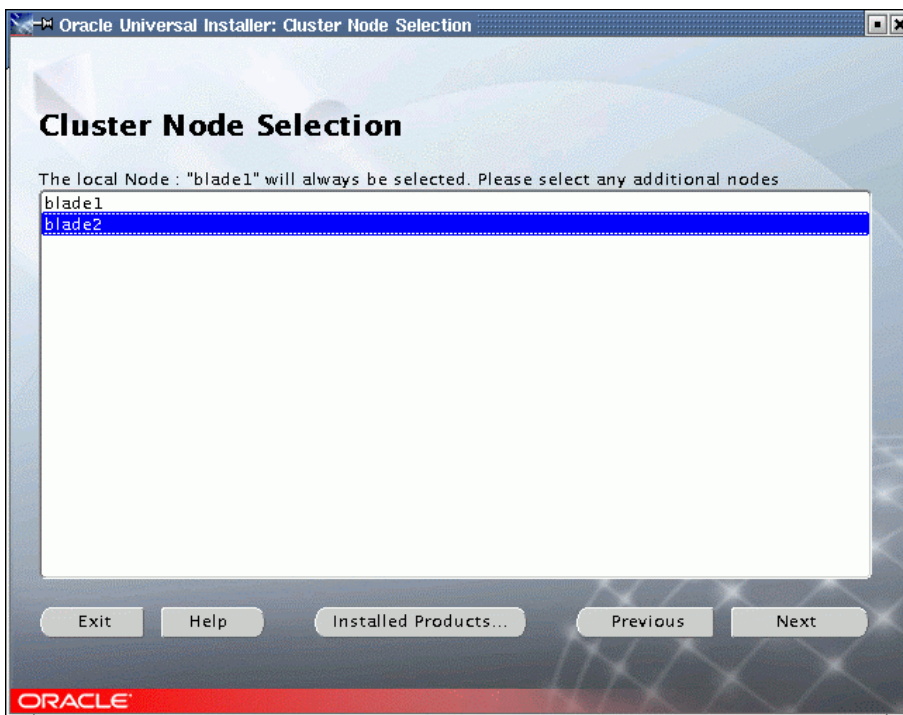

Figure 53. Cluster Node Selection
2. The Cluster Node Selection screen is displayed (Figure 53). Our local node, blade1 is always selected, so select blade2 as shown. Then click **Next** to continue.